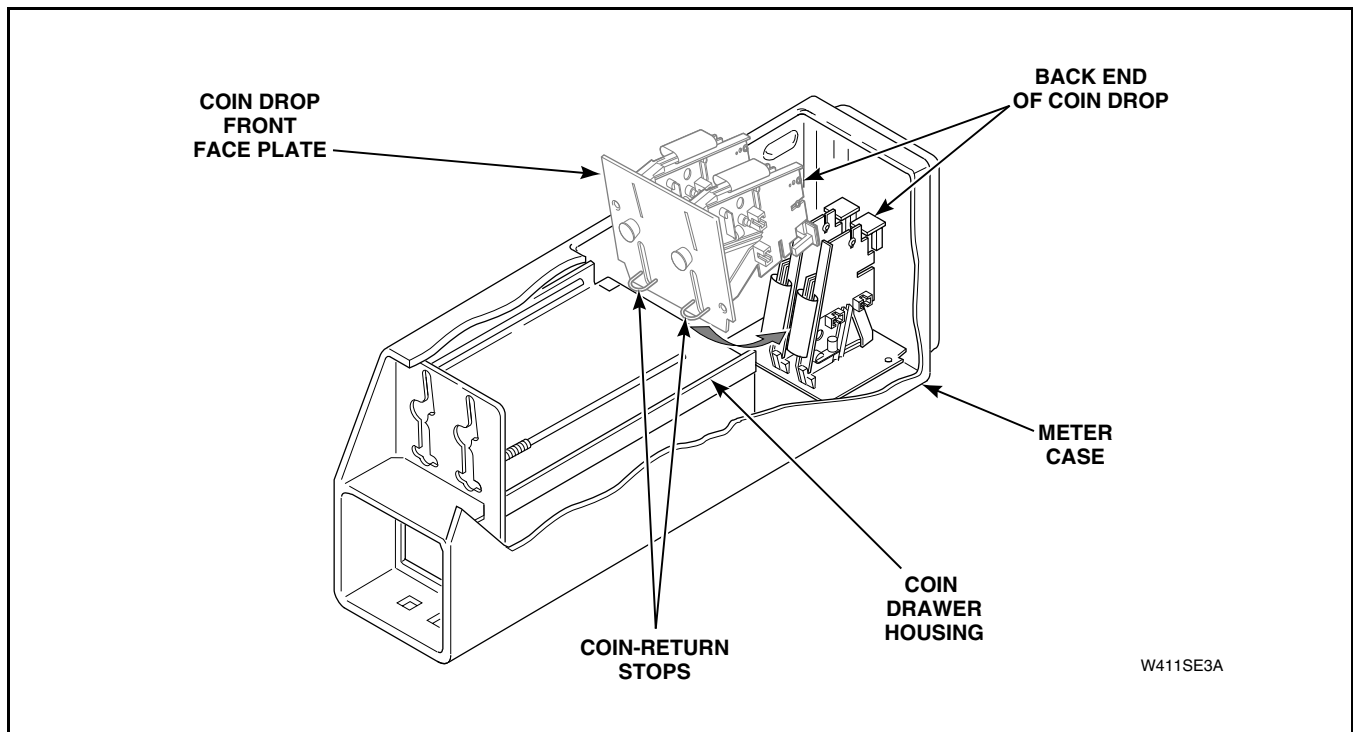

Figure 18
(9) Lift up back end of coin drop until the two coin-return stops slide down past the coin drawer housing, as shown in *Figure 18*.
(10) While holding back end of drop, allow drop's front face plate to rest on bottom of meter case. Refer to *Figure 18*.